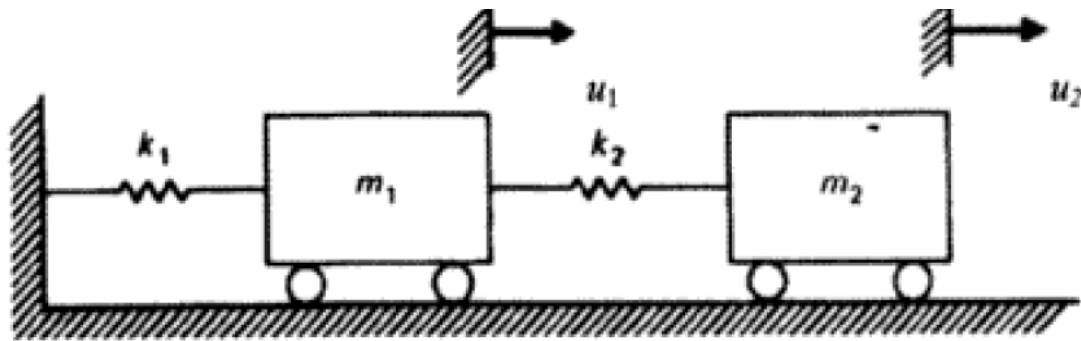

Fig.4.
15. a) Briefly explain how a periodic loading can be expressed as an infinite series of harmonic functions using Fourier theorem. (4)
b) A single bay single storey portal frame with the following properties is subjected to a ground acceleration history that can be idealized as  $0.5 \sin(15t)$ . find the peak steady state amplitude of floor vibration and column shear if the floor mass is 4540 kg and 2013 kN/m. (10)
16. a) Write short notes on the following (i) Pseudo acceleration (ii) DVA spectrum (4)
b) Setup the equations of motion for the 2 DOF system shown in Fig.4. and hence estimate its natural frequencies. Following data may be utilized.  $m_1 = m_2 = M$ ; and  $k_1 = k_2 = K$ . (10)